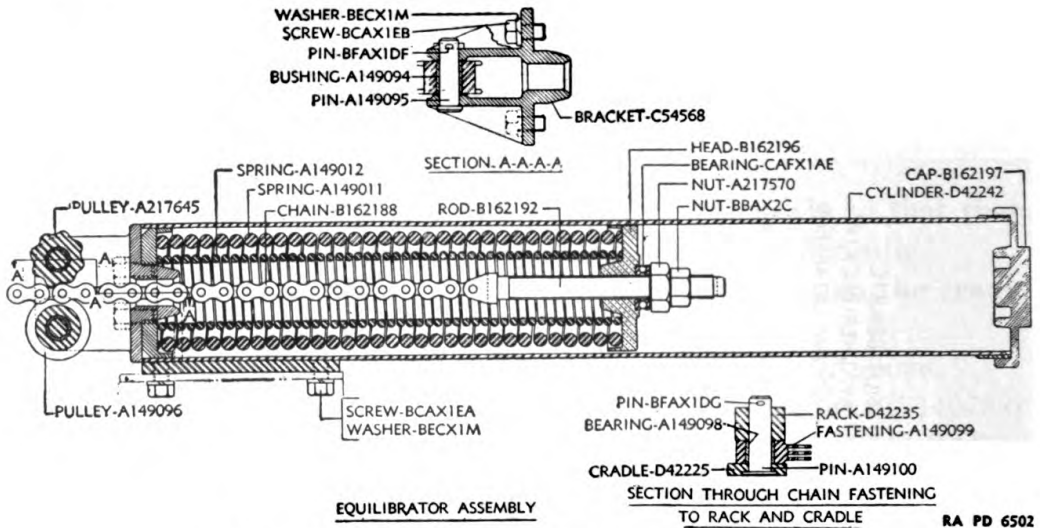

FIGURE 52.—Equilibrator assembly, M3A1 carriage.
**49. Equilibrator, M3A1 carriage** (fig. 52).—*a. Replacement of equilibrator springs.*—(1) Remove the gun from the cradle.